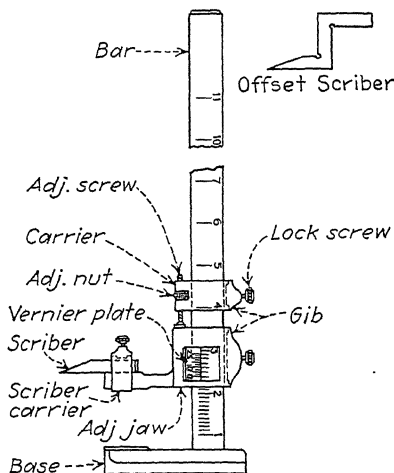

FIG. 217.—Height gauge. (Courtesy of The L. S. Starrett Company).
15. *Height Gauge* (Fig. 217).—Used for obtaining the height of projections from a plane surface and for locating and scribing dimensional lines. The upright bar is graduated to read, by means of a vernier1 scale on the movable jaw, to thousandths